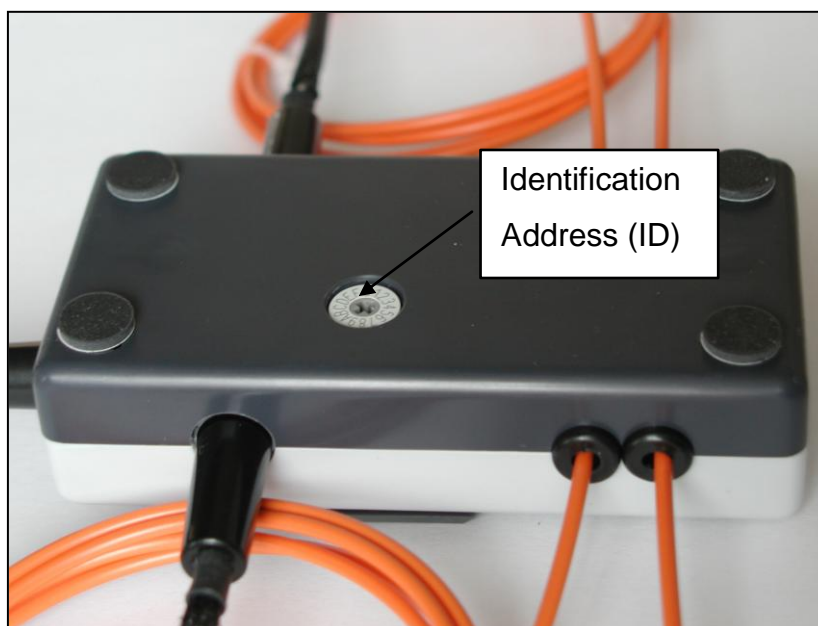

Figure 6: Address switch on the bottom side
Each FPM has its own identification address (ID) and two separated COM ports. All messages have recipient and transmitter addresses ('0'~'9','A'~'F'). The ID Address is adjustable on the bottom of the module (Fig.6). The ID address value is displayed on the LCD after power on. By the one channel version is displayed ever. The two COM ports function as a repeater if the message has a different recipient ID.